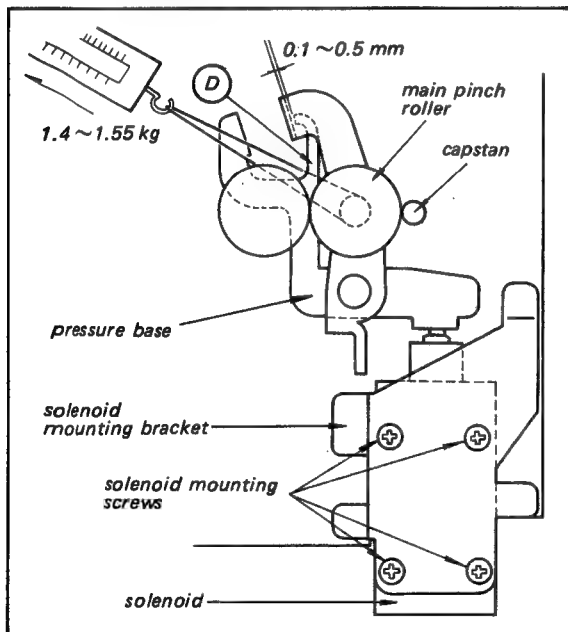

Fig. 7-17 Pinch roller adjustment
1. Make a loop in a piece of string and attach the spring scale around the base of the pinch roller shaft. See Fig. 7-17. Use 4 kg spring scale (SONY Part No. 9-911-042-01).
3. Pull the scale in the direction indicated by the arrow in Fig. 7-17. Check the reading when the pinch roller leaves the capstan. It should be in between 1.4 kg and 1.55 kg. If not, proceed to Step 4.
4. Loosen four screws in Fig. 7-17. Move the solenoid downwards when the reading is too low. Tighten the screws.